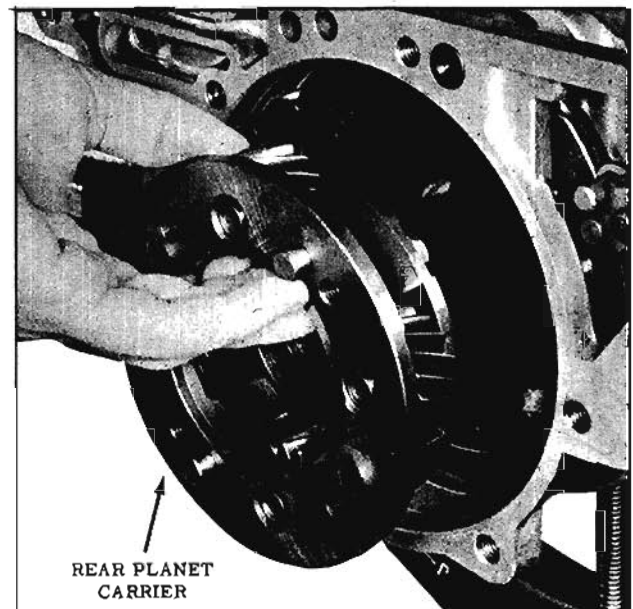

Fig. 6-41 Removing Rear Carrier
4. Remove the rear carrier and shaft assembly from the rear of the transmission. (Fig. 6-41)